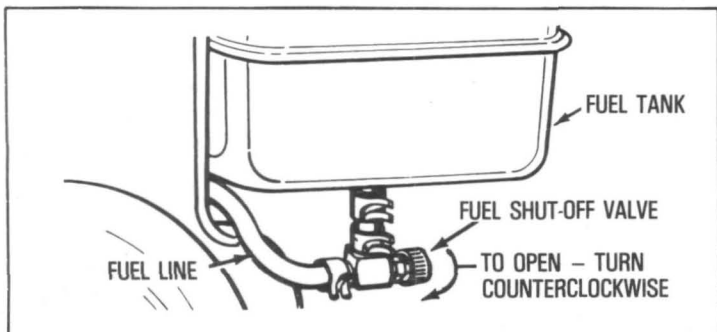

Figure 4
E. Be sure FUEL SHUT-OFF VALVE (if so equipped) is open (see Figure 4).
- A. Close FUEL SHUT-OFF VALVE (if so equipped). (See Figure 4).